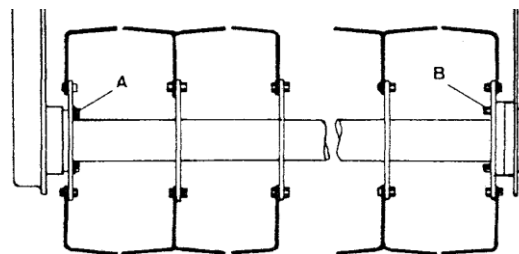

Fig. 37
Take out the 6 bolts (A) securing the rotor to the Rotor Drive Shaft on the left hand side of the machine and the 6 bolts (B) securing the rotor to the Stub Axle on the right hand side plate of the machine (see Fig. 37). Loosen the bolts securing the right hand Stub Axle Plate to the Body.